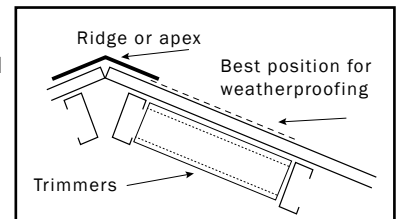
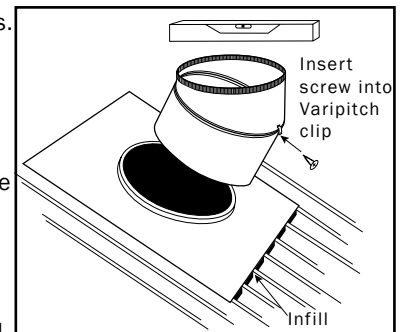

Fig 1
Fig 2
Select the appropriate position on the roof as referred to in (Fig 1), ensuring the ventilator will not be sheltered from the wind. Place the base flashing under the ridge cap.
**Note:** If the purlin spacing is greater than 600mm, trimmers may be required. Install the trimmers between the purlins on either side of the opening (Fig 1). Do not cover the opening (Fig 2).
When a Varipitch throat is being used, sit the Varipitch on the flashing and rotate the top and bottom halves until the top of the Varipitch is level (horizontal); it is recommended that a level be used (Fig 2). Fix the Varipitch to the flashing (for number of fasteners see Table 1).